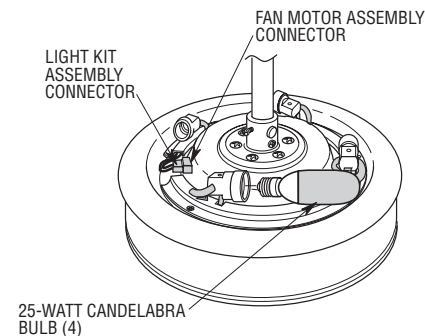

Figure 3
6. Screw the four 25-watt candelabra base bulbs (supplied) into the light kit assembly sockets (Figure 3).